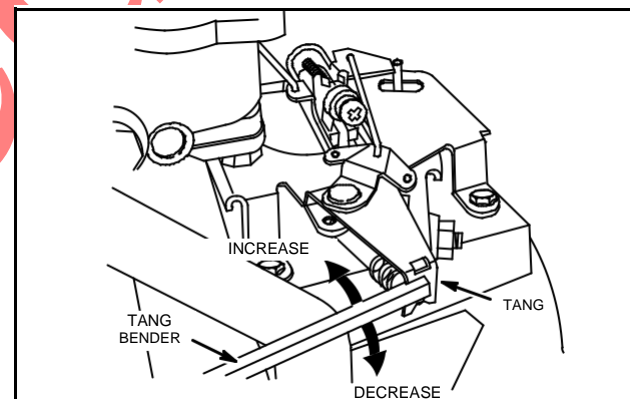

Fig. 50 – Adjust Governed Idle
8. With tang bending tool, bend governed idle tang to obtain 1300 RPM, Fig. 50.